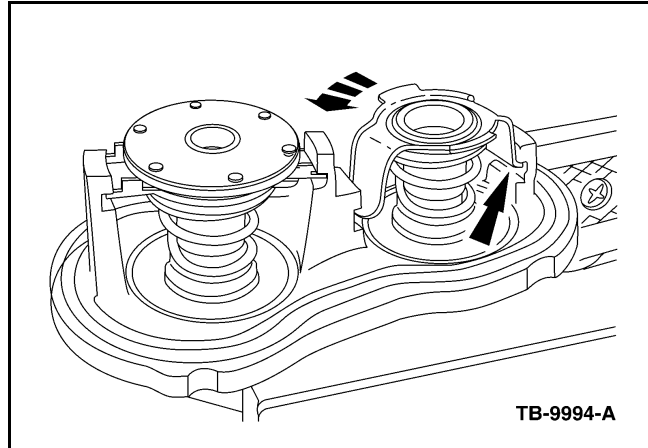

Figure 4 - Article 10-7-5
5. Position thermostat housing assembly in a suitable vise. Press down on the low temperature thermostat crossbar and rotate thermostat to remove it from the thermostat housing assembly. Do not remove the high temperature (bypass) thermostat. (Figure 4)